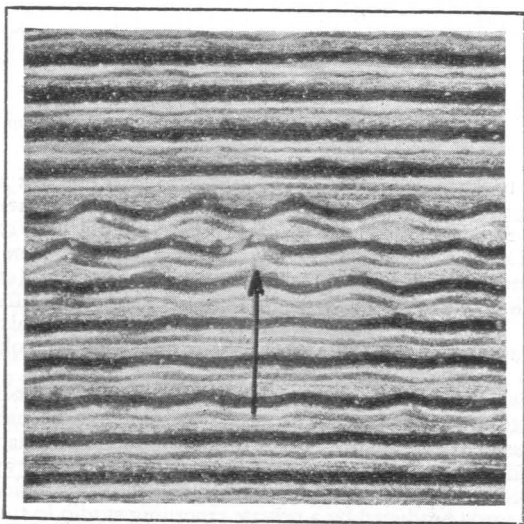

FIG. 36.—See *Groove-Wall breakdown*.
5. *Groove-wall Breakdown* (also termed cut-over) may be a constant nightmare to the recording engineer, but is seldom allowed to worry anybody else. A little exercise in simple arithmetic shows the possibilities in this direction. The width of the groove is in the region of 0.006 in. (six thousandths of an inch) and the spacing is 0.01 in., leaving 0.004 in. between contiguous grooves for the lateral displacement to operate in as shown in Figure 36. Obviously a displacement of 0.002 in. in opposite directions is sufficient to cause two adjacent grooves to run together. Therefore the maximum possible displacement must be kept within this limit.